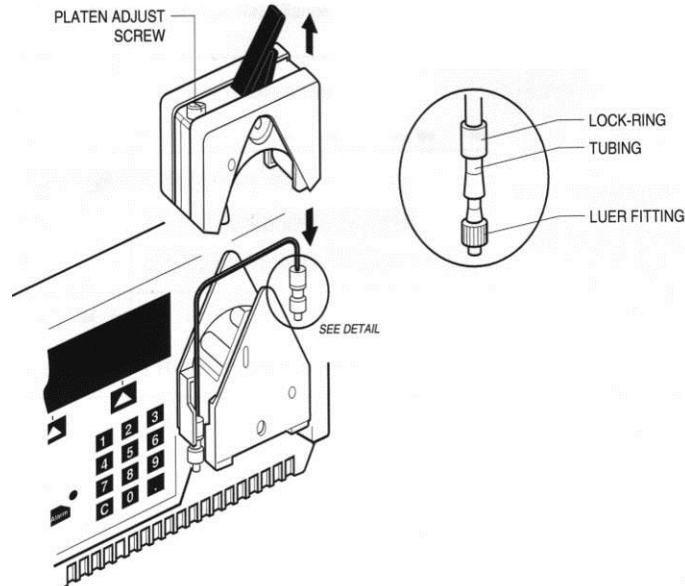

Figure 2: Controller Pump
- 9.2. Figure 2: Controller Pump